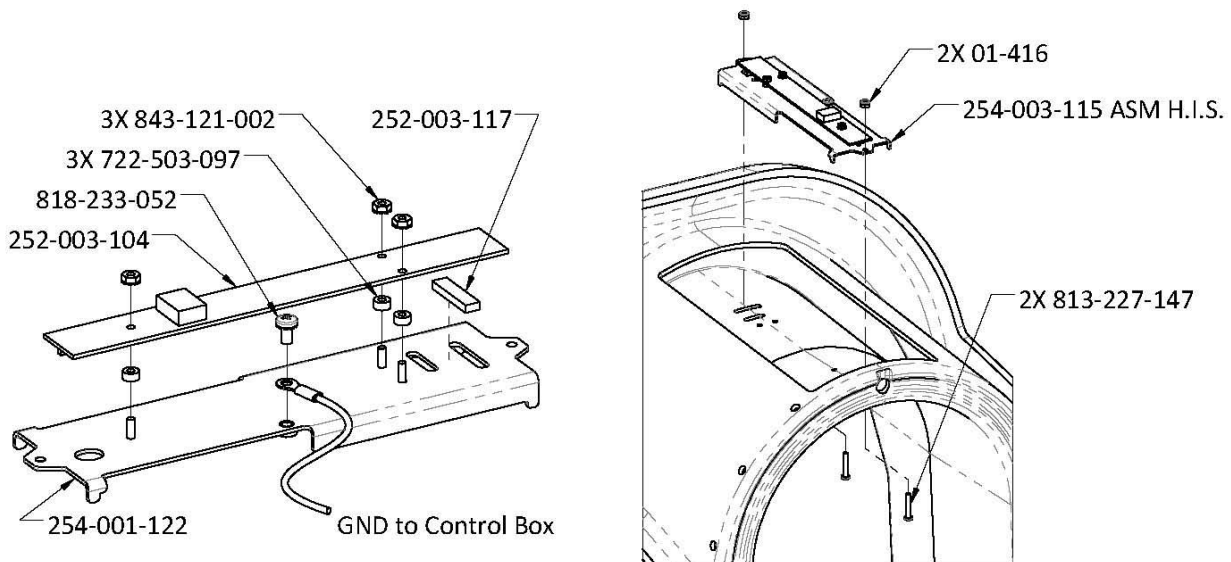

Figure 21 - Intrusion Sensor Installation
- Insert screws up through the two holes in the top of the bezel tunnel and through the holes in the ends of the ground plate. Place lock nuts on top and tighten until secure. If the metal ground plate tabs start to bend, it is too tight. Secure the ground wire to the grounding plate with the screw as shown in Figure 21.
- Route the cables from the sensor control board along the even-lane side of the ball lift to the lift control box through the designated entry point. Secure cable ties as required to keep the wires out of the path of the ball or any moving parts. See Figures 21 and 22. Restrain the cables to the bezel with cable ties as shown in Figure 22.